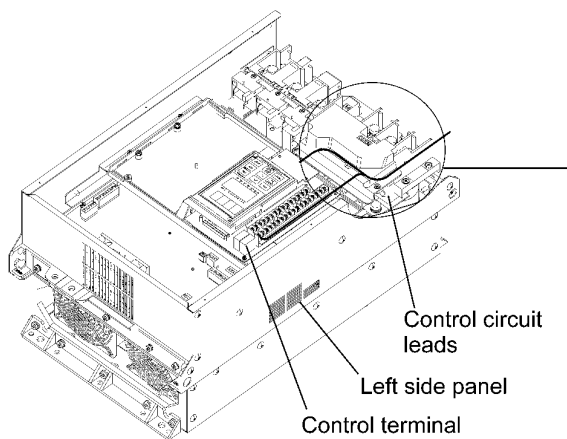

Figure 3-3-13
- (a) Pull the wiring out along the left side panel of the inverter as shown in Figure 3-3-13.